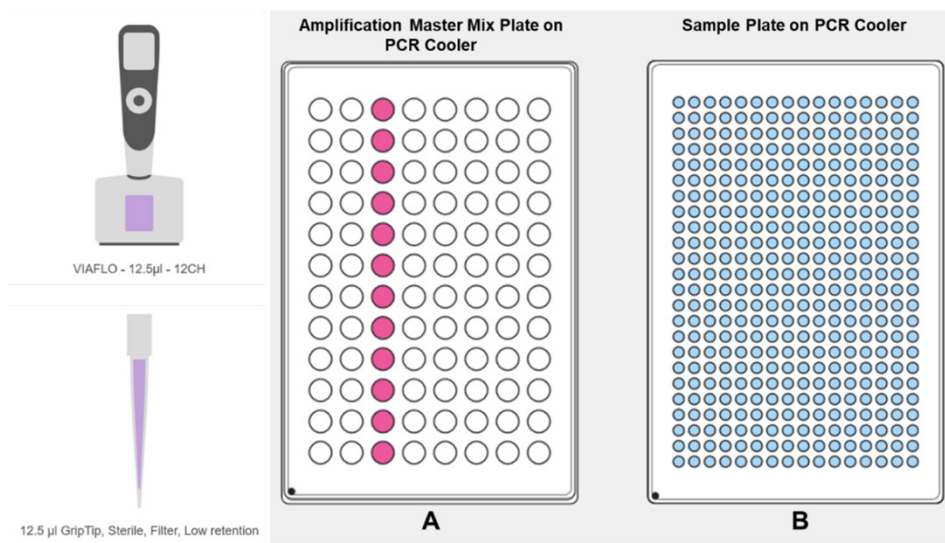

Figure 11: RO384_03_PTA.
- Place the **Amplification Master Mix Plate** on the 96-well PCR cooling block in Position A and place the sample plate on the 384-well PCR cooling block in Position B with position A1 of both plates in the bottom left corner, as indicated by the dot in Figure 11.